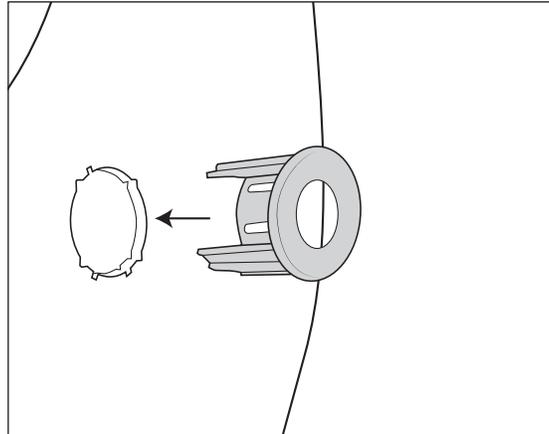

Figure 2
10. Clean bezel with alcohol then install appropriate bezel (IB to center section, OB to outer most hole locations) into each bumper hole being sure to follow the orientation in Figure 2.
NOTE: Note that the notches shown in the installation guide won't be on your bumper. As a result, it's crucial that the bezels are installed in the proper orientation consistent with Figure 2. This means the large notches of the bezel should be horizontal to the ground resulting in the later installed sensor connectors also being horizontal to the ground.